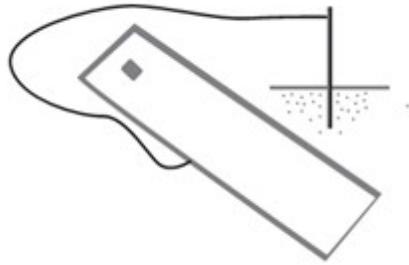

Figure 9 Module grounding circuit
4.1.3 The aluminum frame and support of the module must be grounded, as shown in Figure 9. Each module has a grounding hole and is marked on the frame (it is recommended that the series / parallel connection of each module must be grounded once). The installation method of grounding bolt is shown in FIG. 10. The grounding wire and frame can be reliably grounded by the prepared grounding hole. And the flat washers, spring washers and nuts are matched by installing bolts M5 × 10 ~ 15. The modules and the earth wire shall be perfectly connected by connecting plugs. Negative grounding inverter can be installed to